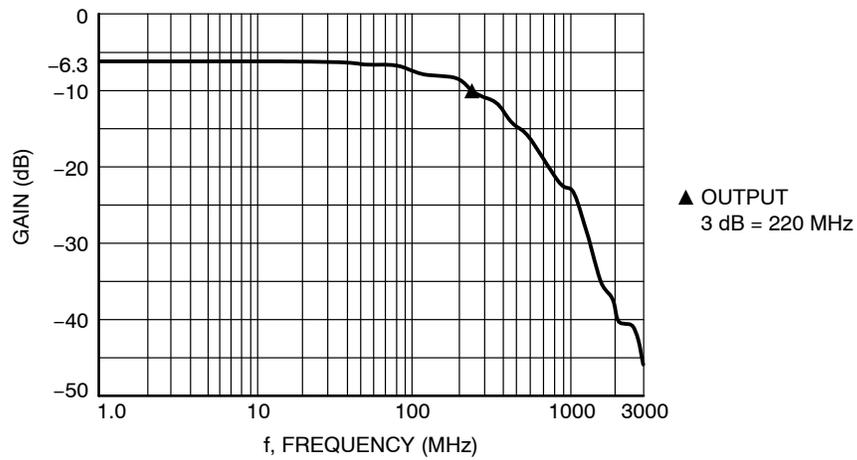

Figure 2. Typical EMI Filter Response
- Nominal Cutoff Frequency of 220 MHz (per Figure 2)
2. 50 Ω Source and 50 Ω Lead Termination per Figure 2.